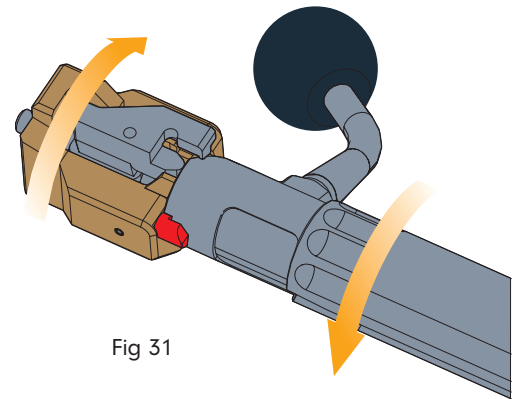

Fig 31
- When the firing pin spring is compressed, rotate the shroud as shown in Fig 31 until the location pin locks into the bolt body just before the fire position.